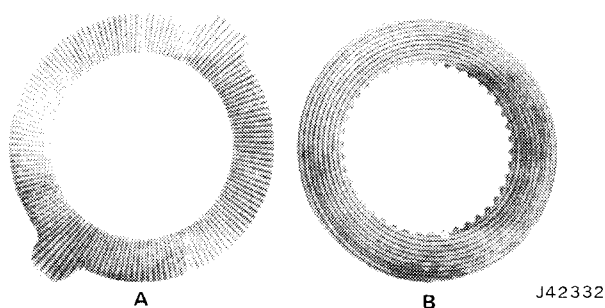

Fig. 10-72 Plate and Disc Identification
Examples of radial groove clutch plate (A) and the concentric groove disc (B) are shown in figure 10-72.